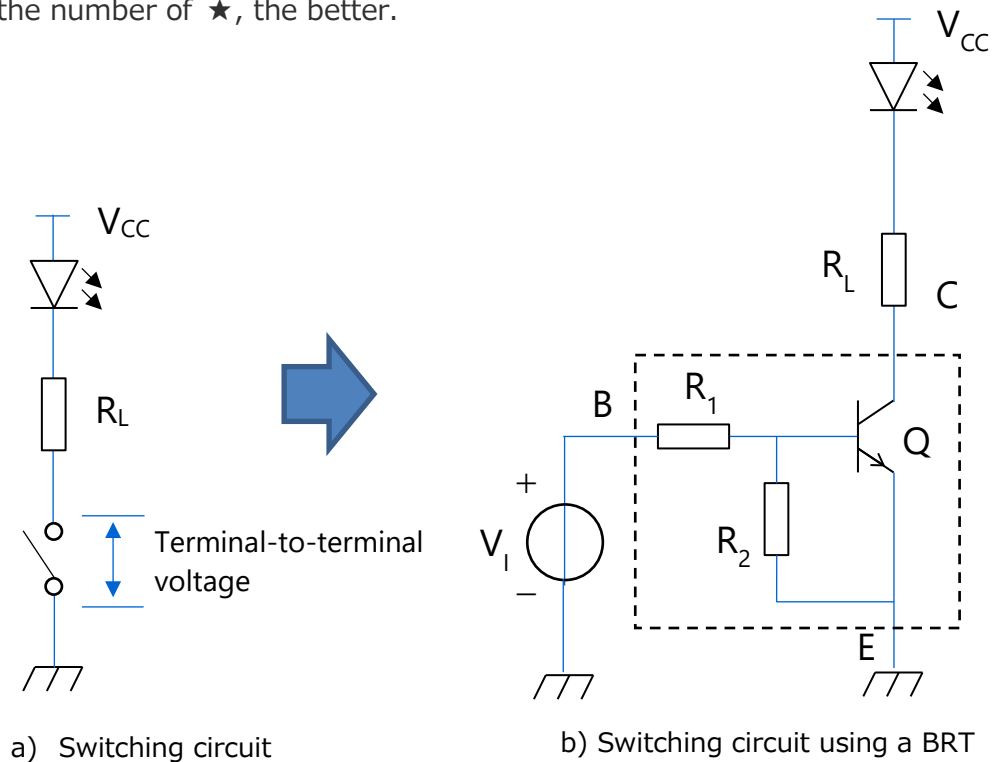

Figure 1-1 Switching circuit
In the case of an NPN BRT like the one shown in Figure 1-1(b), R_1 converts the control voltage applied to the base (B) terminal into current in order to stabilize the switching operation. In the off